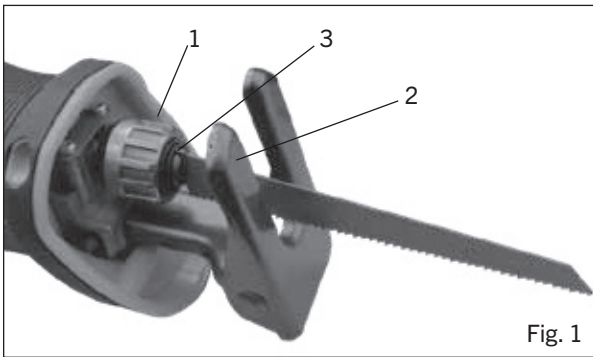

Fig. 1
1. To install a blade in the saw, rotate the blade locking sleeve (1) counter-clockwise (Fig. 1).
2. Insert the appropriate blade (2) into the blade slot (3) as far as it will go.